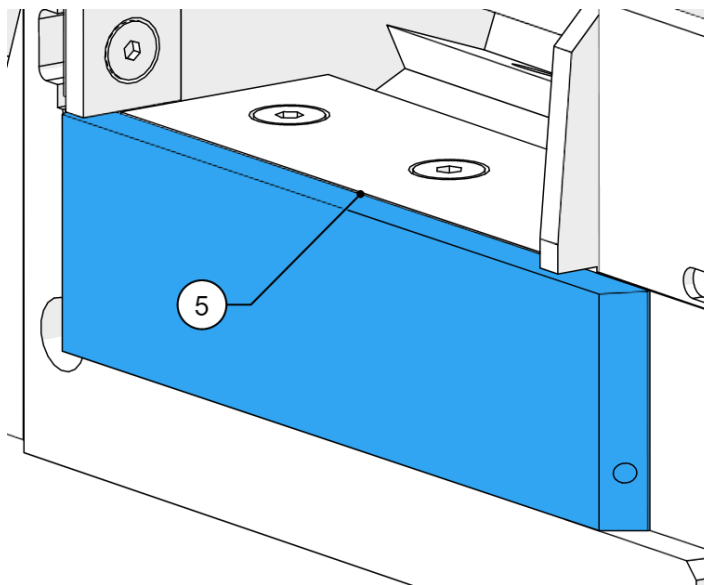

Figure 68 - Anvil tight to the bedplate
14. Insert the anvil through the side of the chamber, making sure that the anvil stays tight to the bed plate (5, Figure 68).